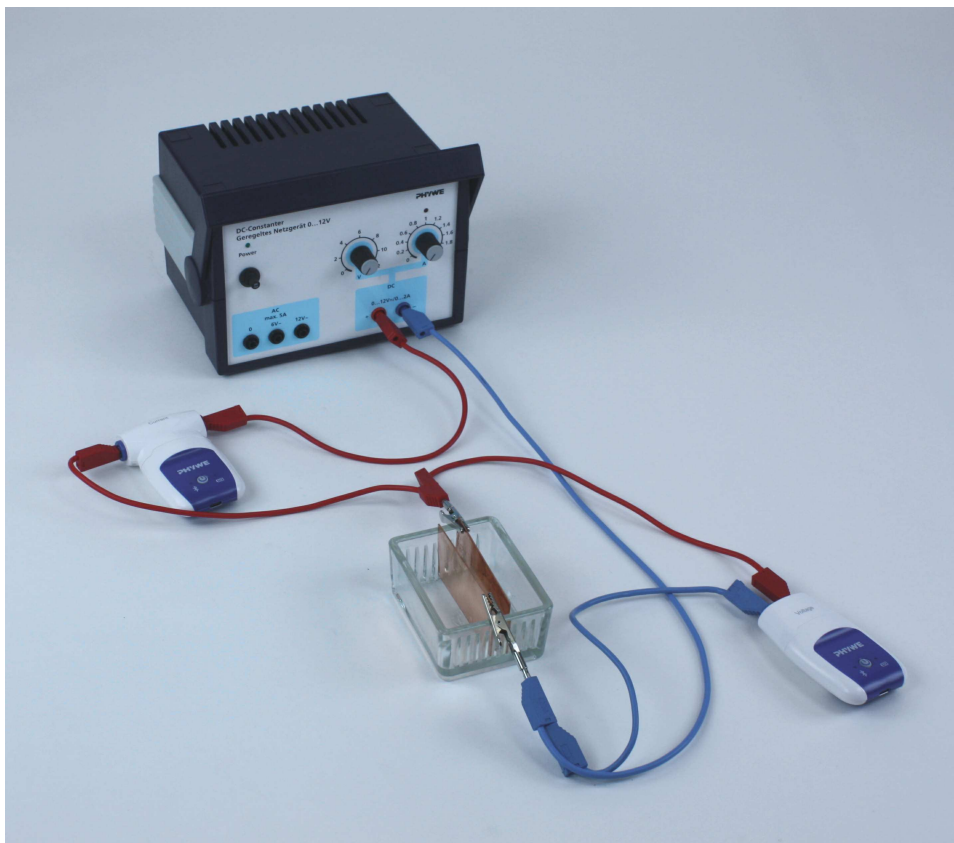
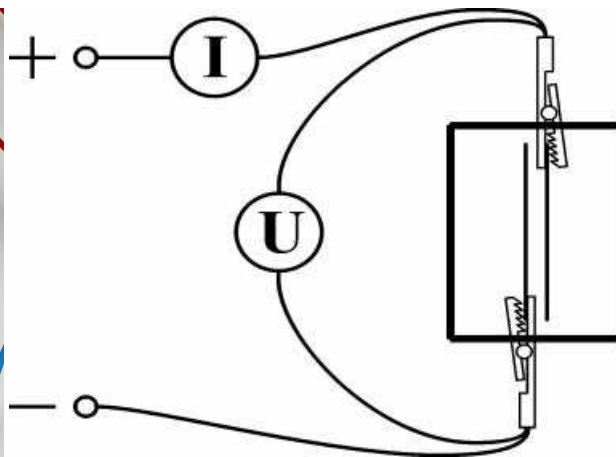

Fig. 1: Experiment set-up
Fig. 3: Circuit diagram. Plus and minus are connected to the power supply.
- Set up the experiment as shown in the photo (Fig. 1), the detailed photo (Fig. 2) and the circuit diagram (Fig. 3).
- Pour 100 ml of demineralized water in the grooved trough and dissolve in it 0.8 g of $\text{CuSO}_4 \cdot 5 \text{H}_2\text{O}$ (copper (II) sulphate pentahydrate) (about a heaped spatula tip).